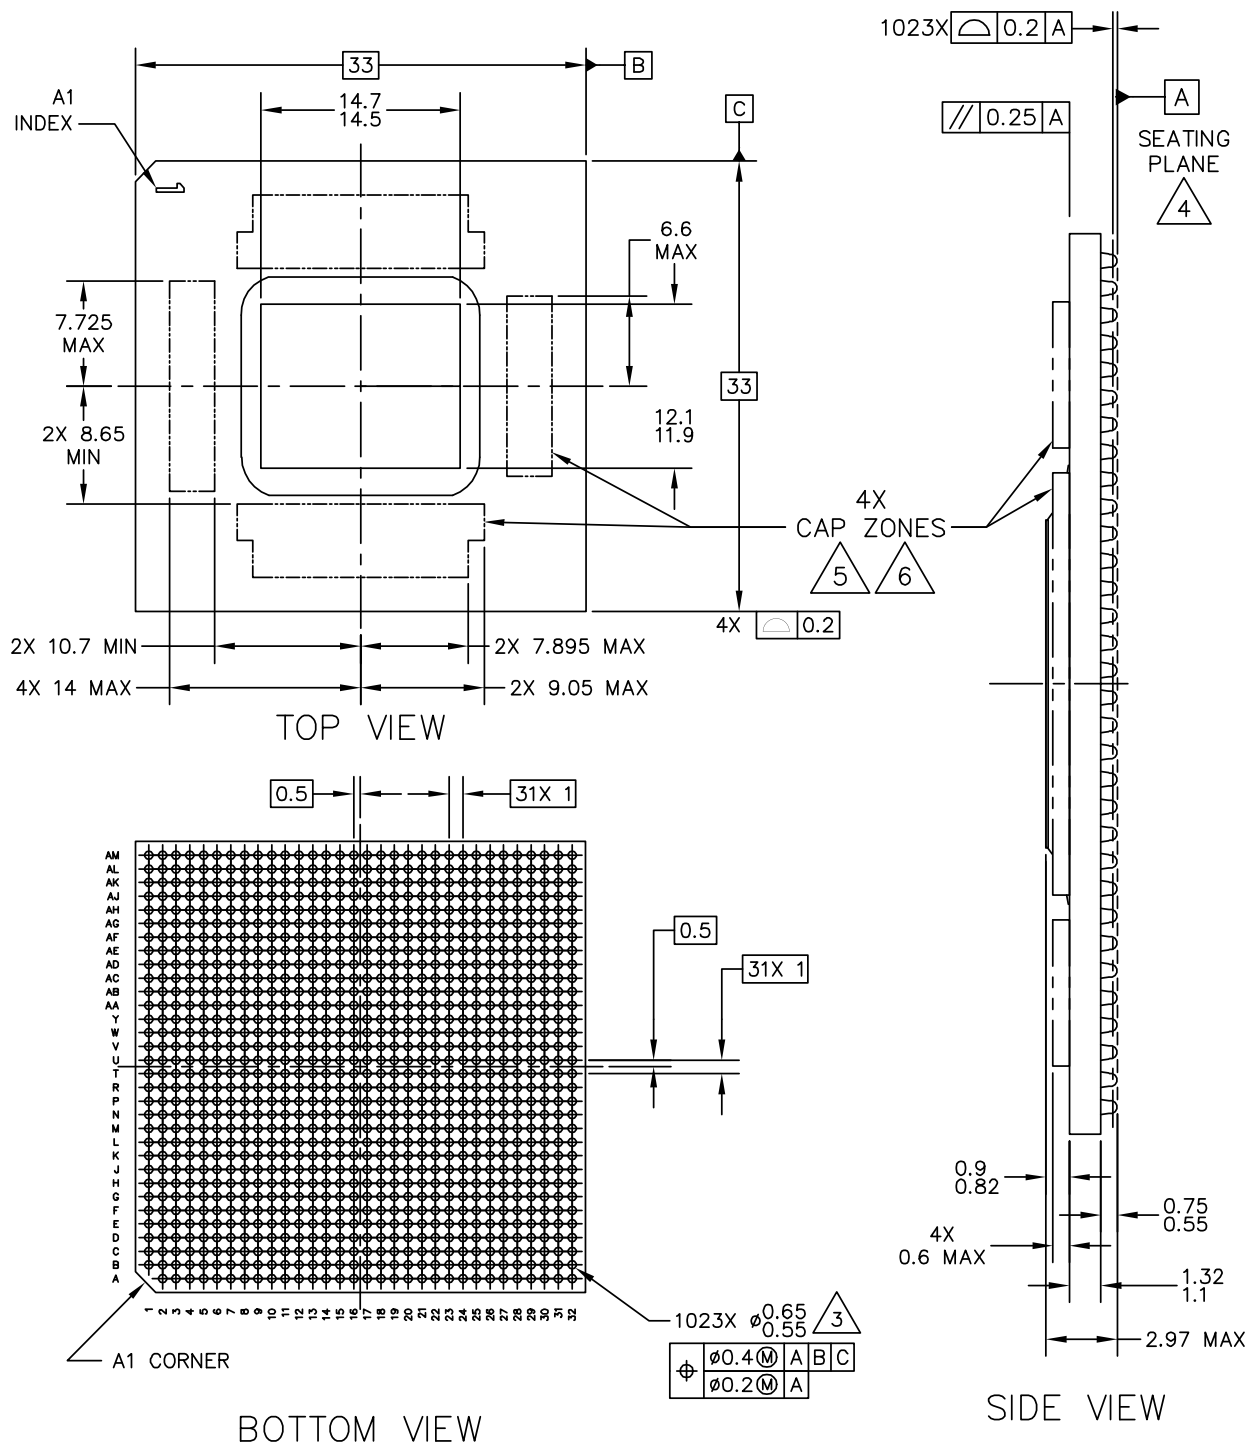
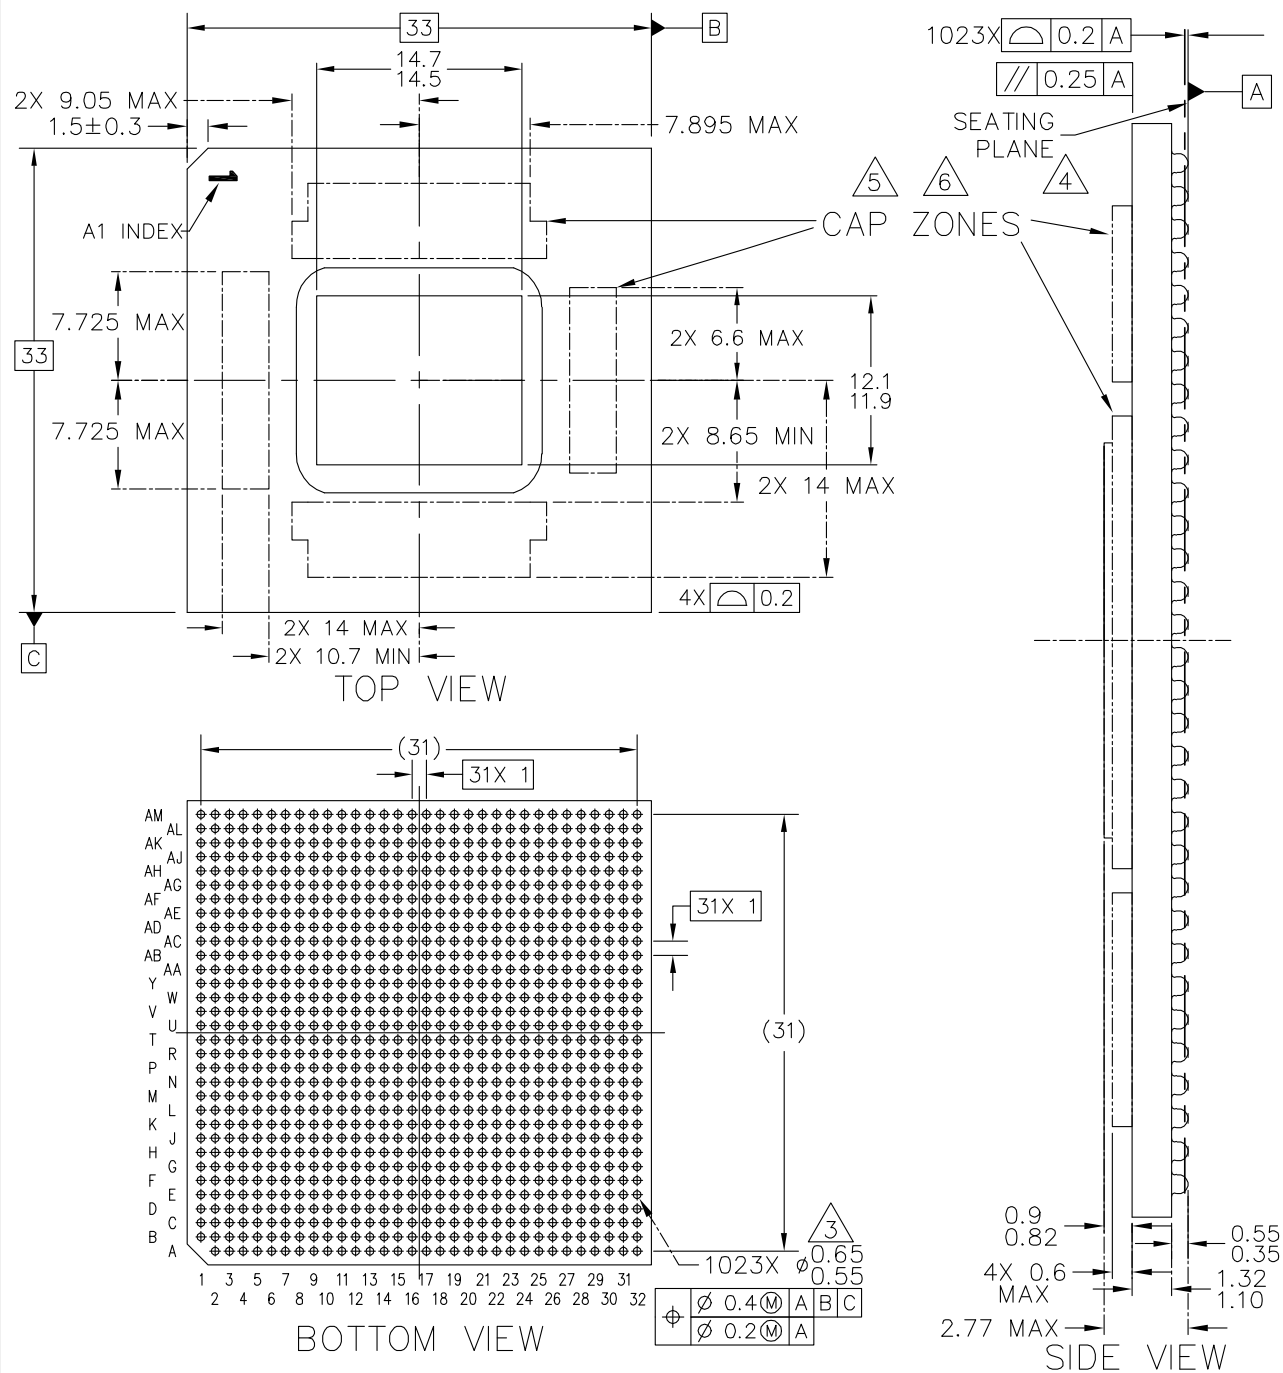

Figure 57. MPC8640D High-Lead FC-CBGA Dimensions
Figure 58. MPC8640D Lead-Free FC-CBGA Dimensions
The mechanical dimensions and bottom surface nomenclature of the MPC8640D (dual core) and MPC8640 (single core) high-lead FC-CBGA (package option: HCTE HX) and lead-free FC-CBGA (package option: HCTE VU) are shown respectfully in Figure 57 and Figure 58.
**NOTES for Figure 57**
## NOTES for Figure 58